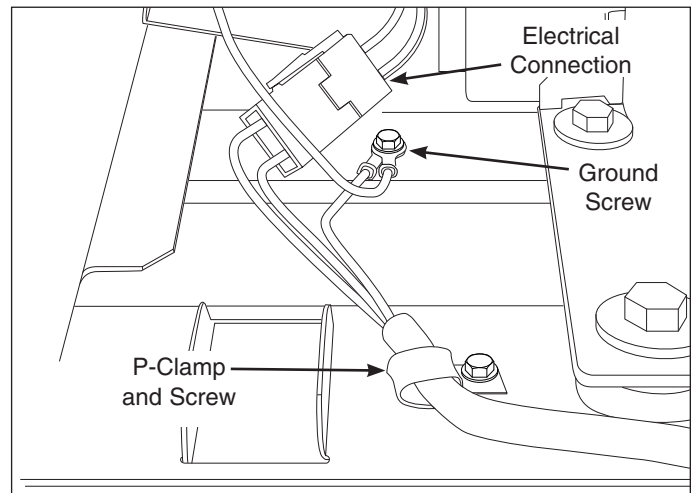

Figure 6-26. Power Cord Removal
3. Using a 1/4" socket or wrench, extract the screw securing the P-clamp to the compressor mounting plate. (See Figure 6-26)